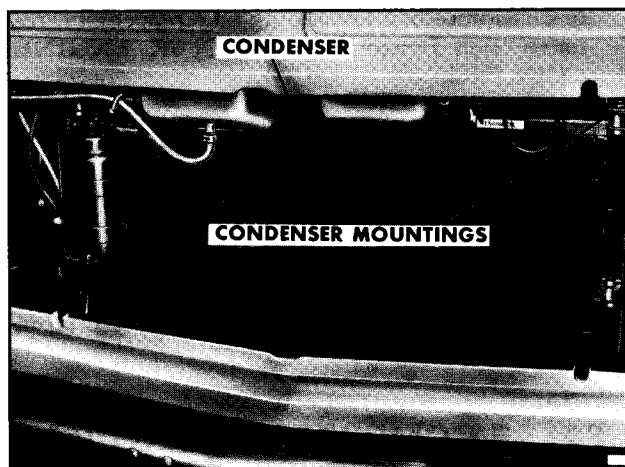

Figure 34—Condenser Mounting, Typical
6. Remove the condenser to radiator mounting screws (figure 34).